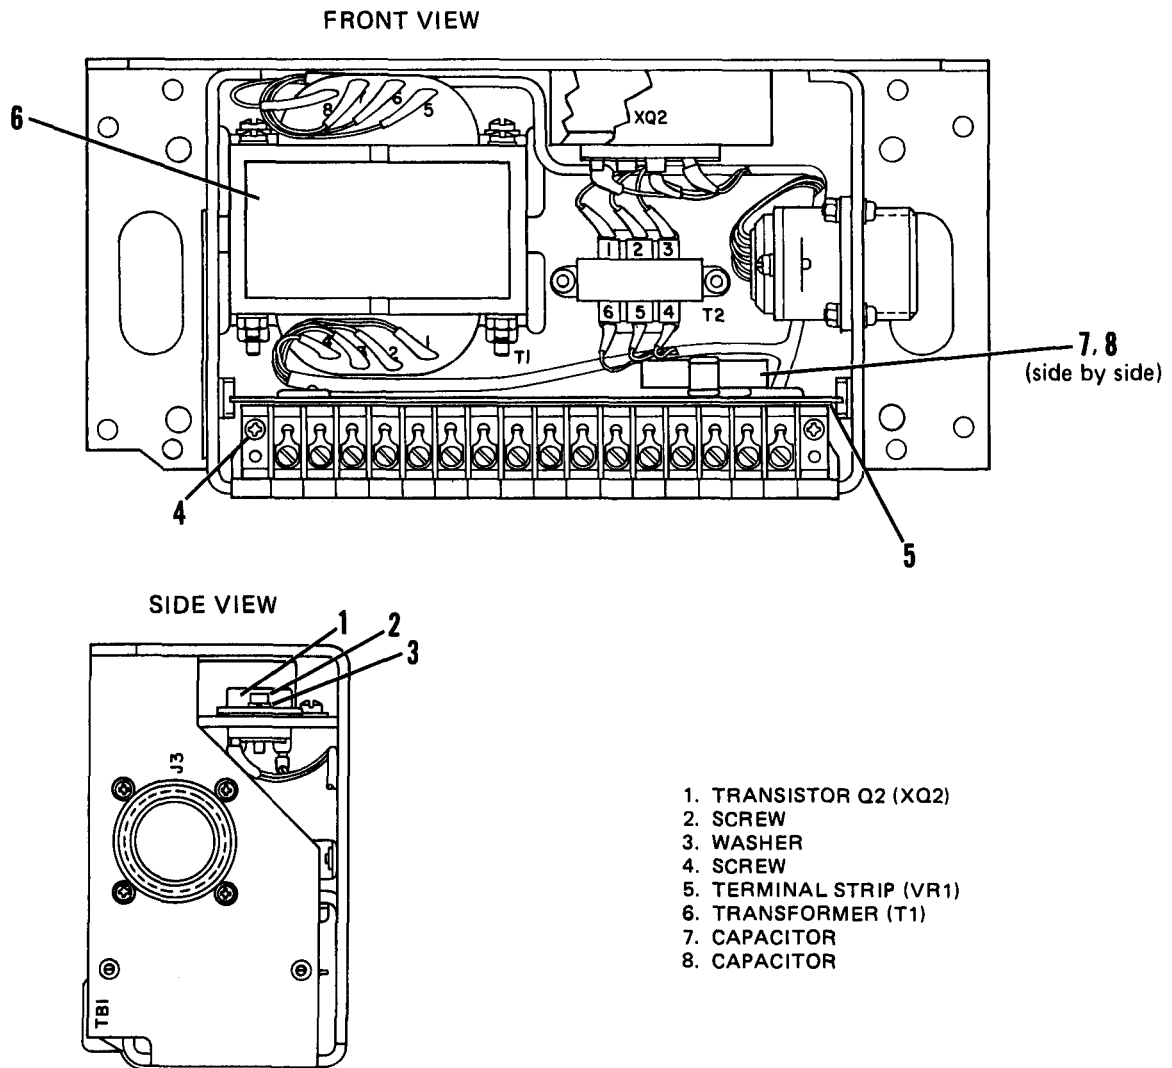
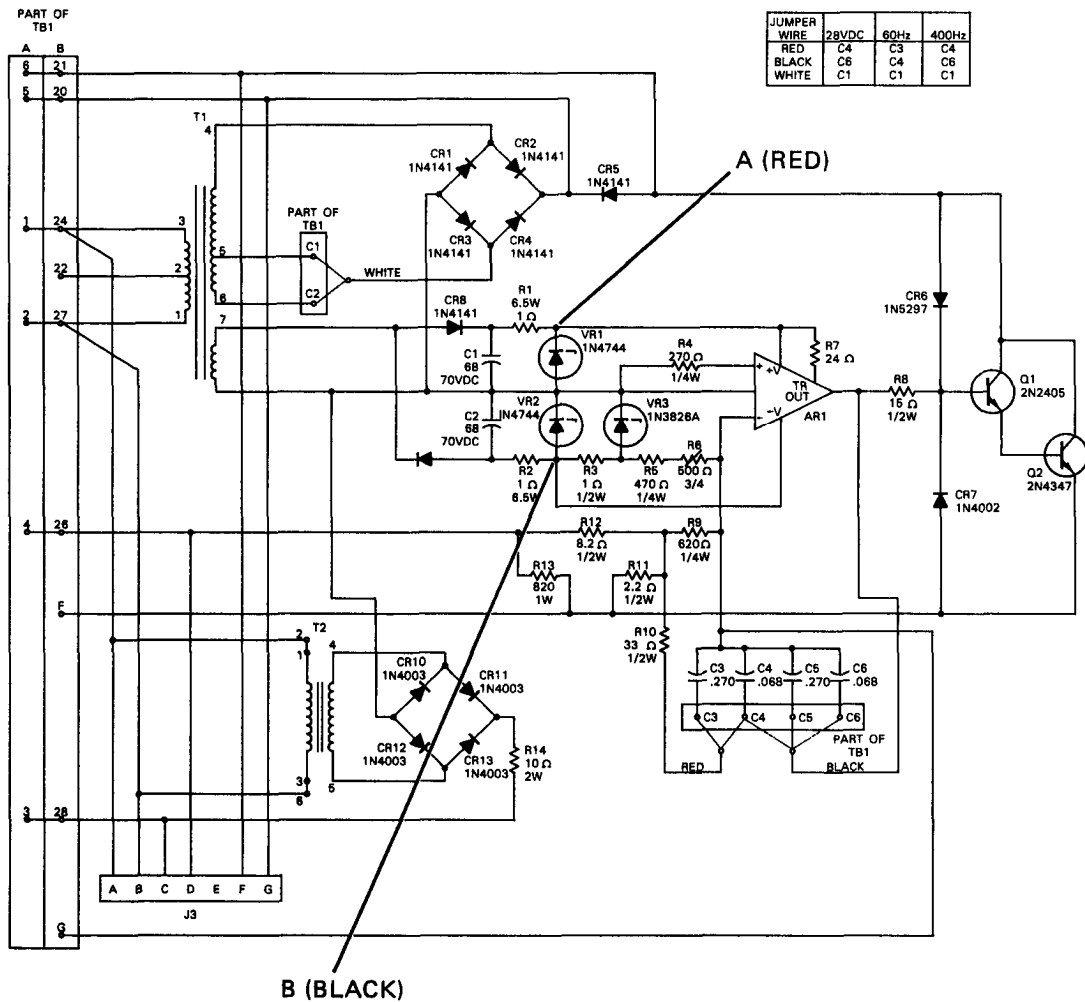
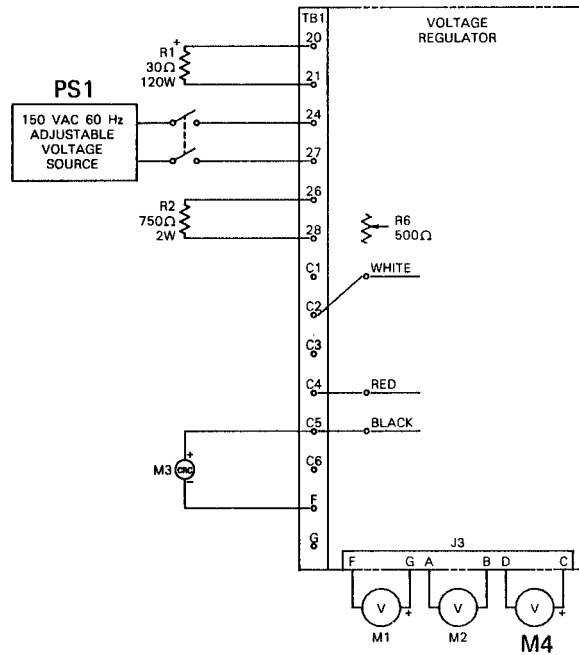

Figure 5-13. Voltage Regulator Testing.
Figure 5-15. Voltage Regulator Schematic.
Figure 5-16. Voltage Regulator Adjustment Schematic.
- (1) Remove voltage regulator, refer to step c, Removal.
- (2) Test power transistor Q2.
- (a) Locate power transistor Q2 (1, Figure 5-13) on the back of the voltage regulator housing.
- (3) Remove terminal strip VR1.
- (a) Remove two screws (4, Figure 5-13) that secure terminal strip VR1 (5).
- (b) Gently pull terminal strip VR1 (5) along with the printed circuit board upward.
- (4) Test diode CR5.
- (5) Test current regulating diode CR6.
- (8) Solder lead of diode CR6 to printed circuit board (6, Figure 5-13).
- (9) Install transistor Q2 (1, Figure 5-13) with mica insulator between Q2 and regulator housing.
- (10) If necessary, apply a small amount of heat sink compound (Table 2-2, item 14) (P/N 13217E3704, FSCM 97403) to transistor Q2 and housing. Secure transistor Q2 with screws (2) and washers (3).
- (11) Make test connections.
- (a) Connect a 30 ohm 120 watt resistor to terminals #21 and #20 of terminal strip VR1 (5).
- (d) Attach the two rheostat leads to terminals #26 and #28 of terminal strip VR1 (5). Turn the rheostat clockwise to its maximum rotation.
- (e) Connect a 0-150 VAC, 60 HZ power supply (refer to Table 2-1) to terminals #24 and #27 of terminal strip VR1 (5).
- (12) Perform tests.
- (j) Locate components R1 and R2. Refer to Figure 5-15 for a wiring schematic. Apply 115 VAC to terminals #24 and #27 of terminal strip VR1 (5, Figure 5-13).
- (o) A voltage of 25-35 VAC should be present. If voltage is not present, check that 115 VAC power source is connected properly and all wiring connections to T1 (6) are tight. If power is properly connected and T1 (6) connections are tight transformer T1 (6) should be replaced.
- (p) After verifying that 25-35 VAC is present across T1 (6) terminals #7 and #8, locate diodes CR8 and CR9 on circuit board (6).
- (s) Locate capacitors C1 (7) and C2 (8) on the reverse side of the printed circuit board. Unsolder one end of each capacitor from the circuit board.
- (t) Test capacitors C1 (7) and C2 (8) with a multimeter (set to read ohms) across the capacitor being tested and then reverse leads across capacitor.
- (w) Locate zener diode VR3 on circuit board and apply 115 VAC to terminals #24 and #27 of the terminal strip VR1 (5, Figure 5-13).
- (aa) Apply the 115 VAC power to terminals #24 and #27 of the terminal strip VR1 (5). Recheck the voltage drop across zener diode VR2, there should be a voltage drop of 14 VDC present. If 14 VDC is present and there is no voltage drop across zener diode VR3, VR3 should be replaced.
- (1) The following components and equipment are needed for the adjustment procedures on the voltage regulator.
- (2) Connect voltage regulator, equipment, and components as shown in Figure 5-16.
- (3) Set potentiometer R6 to 250 ohms (halfway).
- (4) Turn AC power supply (PS1) on.